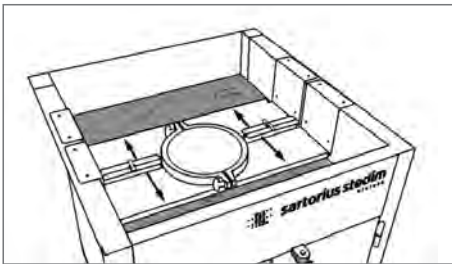

Figure 70
- If the bag 8" plug is closed, remove the protection cap from the clamp holder (see Fig. 70)